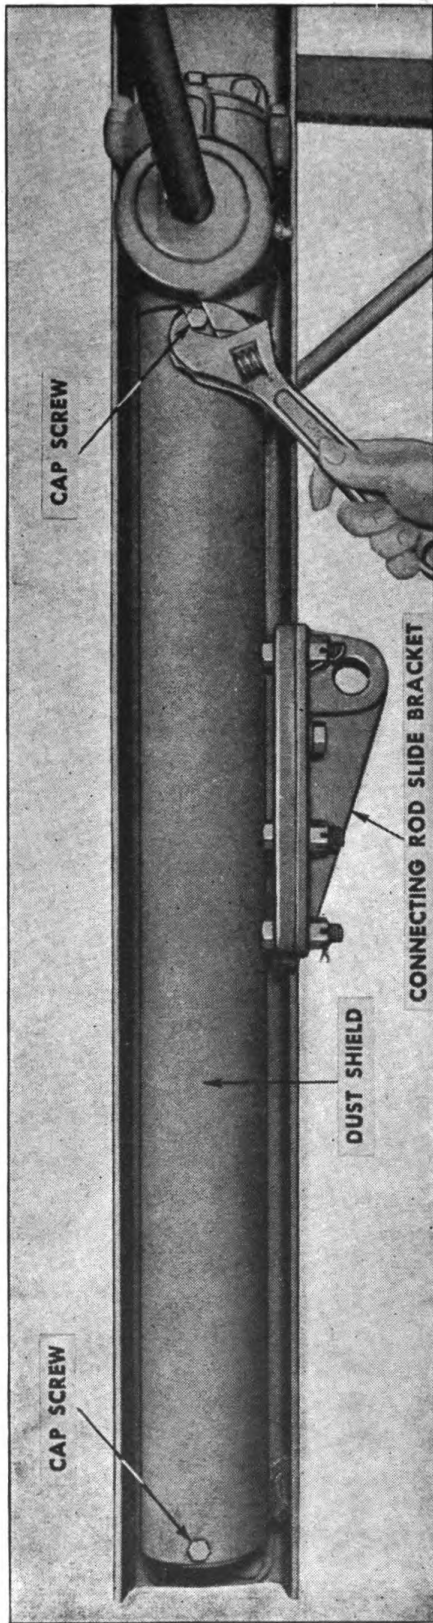

FIG. 75. REMOVING DUST SHIELD.
b. Remove dust shield by removing two cap screws (Fig. 75).